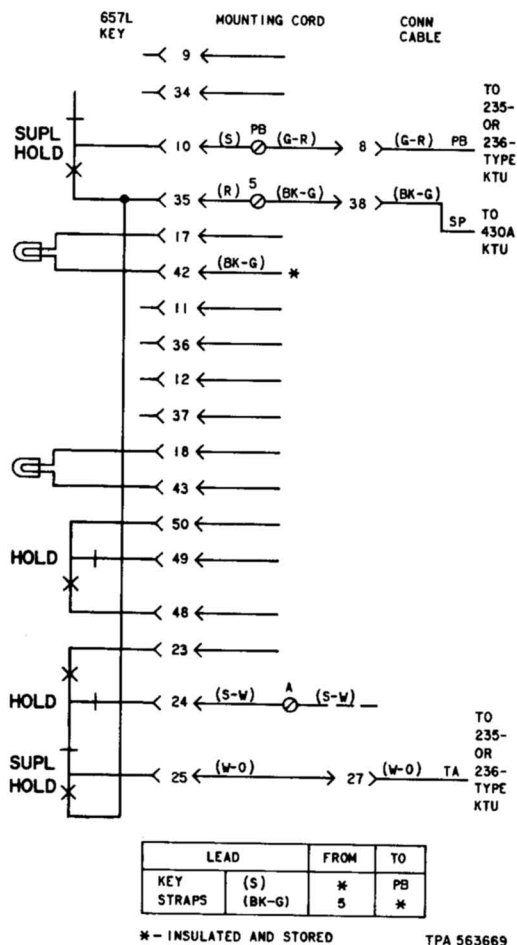

Fig. 5—Priority Hold, Using 657L Key
2.04 ♦Priority hold can be supplied in these sets by installing a 657L key in the first module and modifying set as shown in Fig. 5. Refer to Section 518-310-405 for connections to the 235- or 236-type KTU and to Section 518-215-125 and SD-69530-01 for connections to the 429A and 430A KTUs.♦